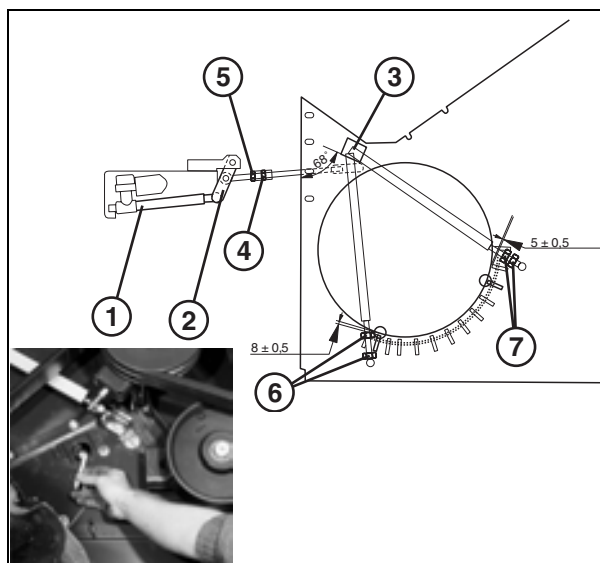

Fig. 13
Initial Settings, (Fig. 13)
Adjust the arm (3) on the right-hand side using the nut (4) as shown in (Fig. 13). The angle of the arm (3) with the machine side must be 68° . Counter-tighten the nut (5) after adjustment.